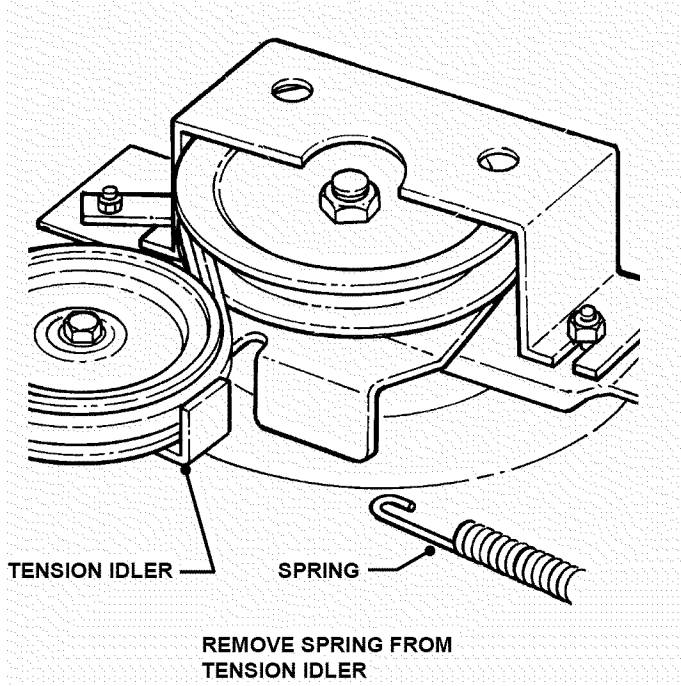
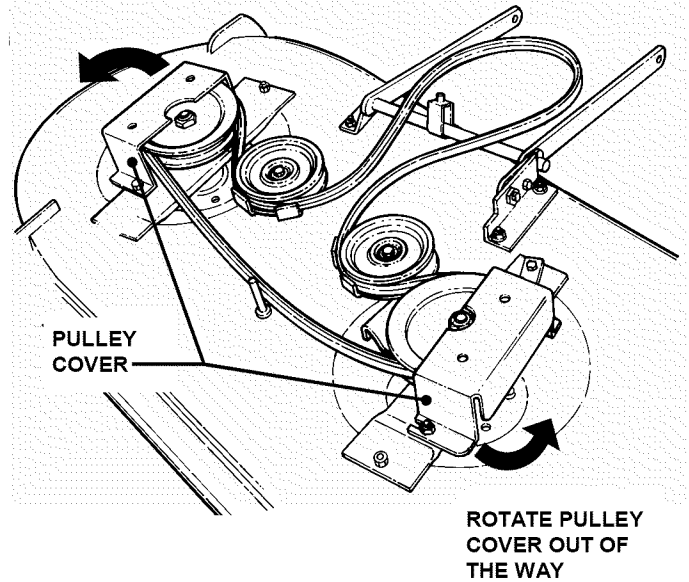

FIGURE 4.33
FIGURE 4.34
4. Remove deck idler tension spring. Loosen bolts that secure the end of the spindle pulley covers and rotate cover around out of the way. See Figure 4.33 & Figure 4.34.